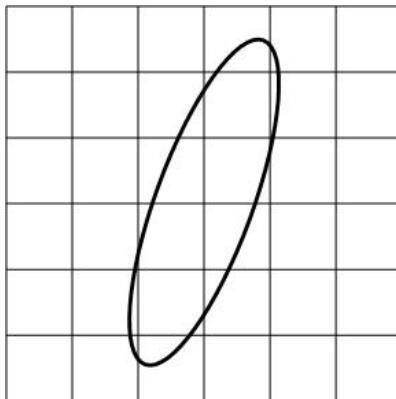

Figure 2. Typical FM deviation oscilloscope display (zero beat method).
- (2) Connect **TI COMP** (rear) to **Channel 2** input of oscilloscope, and synthesizer/level generator **OUTPUT 50 Ω** to **Channel 1** input of oscilloscope.
- (3) Enter a frequency of 108.000 MHz into TI and press **TONE SELECT 9960 FM** only (**30 Hz VAR OFF**) pushbutton.
- (4) Adjust synthesizer/level generator frequency to 9475 Hz and output amplitude controls to 0 dBm.
- (5) The oscilloscope will display a slowly oscillating circle or ellipse as shown in figure 2.
- (6) Adjust oscilloscope **CH1** and **CH2 Vertical Scale** (volts/division) controls for a sharply defined display.